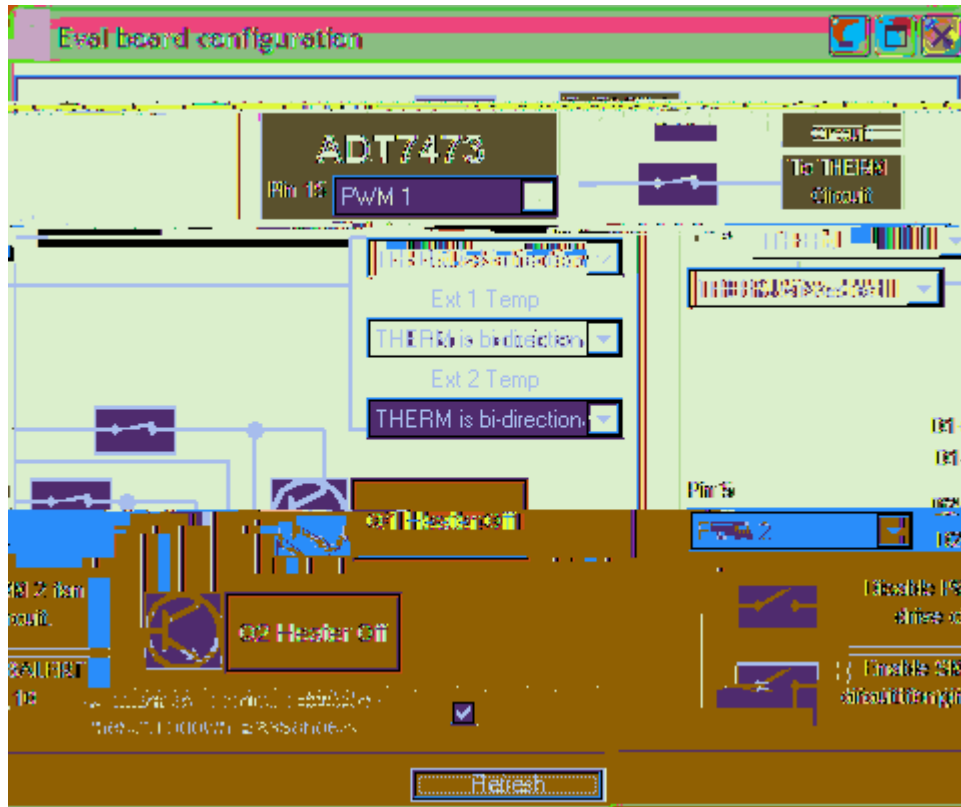

Figure 6. Eval Board Configuration Window
- ∅ The onboard heaters can be turned on and off in this same window by clicking the appropriate heater (Q1 or Q2). In figure 6 heater Q1 is turned on.